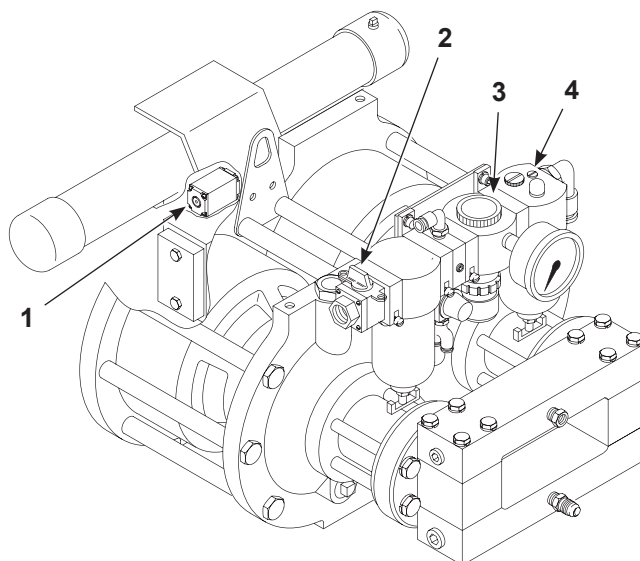

Figure 4-1 Pump Controls and Adjustments
1. See Figure 4-1. Remove the applicator nozzle.
1. See Figure 4-1. Place the siphon rod into the coating material. If a pressurized system is used, pressurize the feed line.
2. Open the air shutoff valve (2) and adjust the air regulator (3) until the pump begins to stroke slowly.